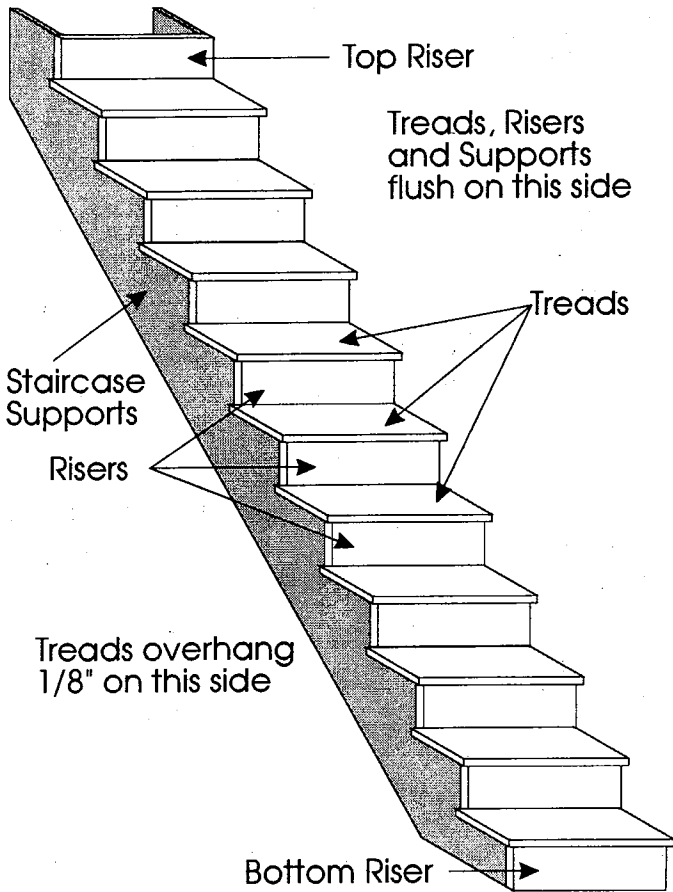

Figure 16
4. Tape treads into position leaving a 1/8" overhang on left edge and flush on right. Fig. 16.